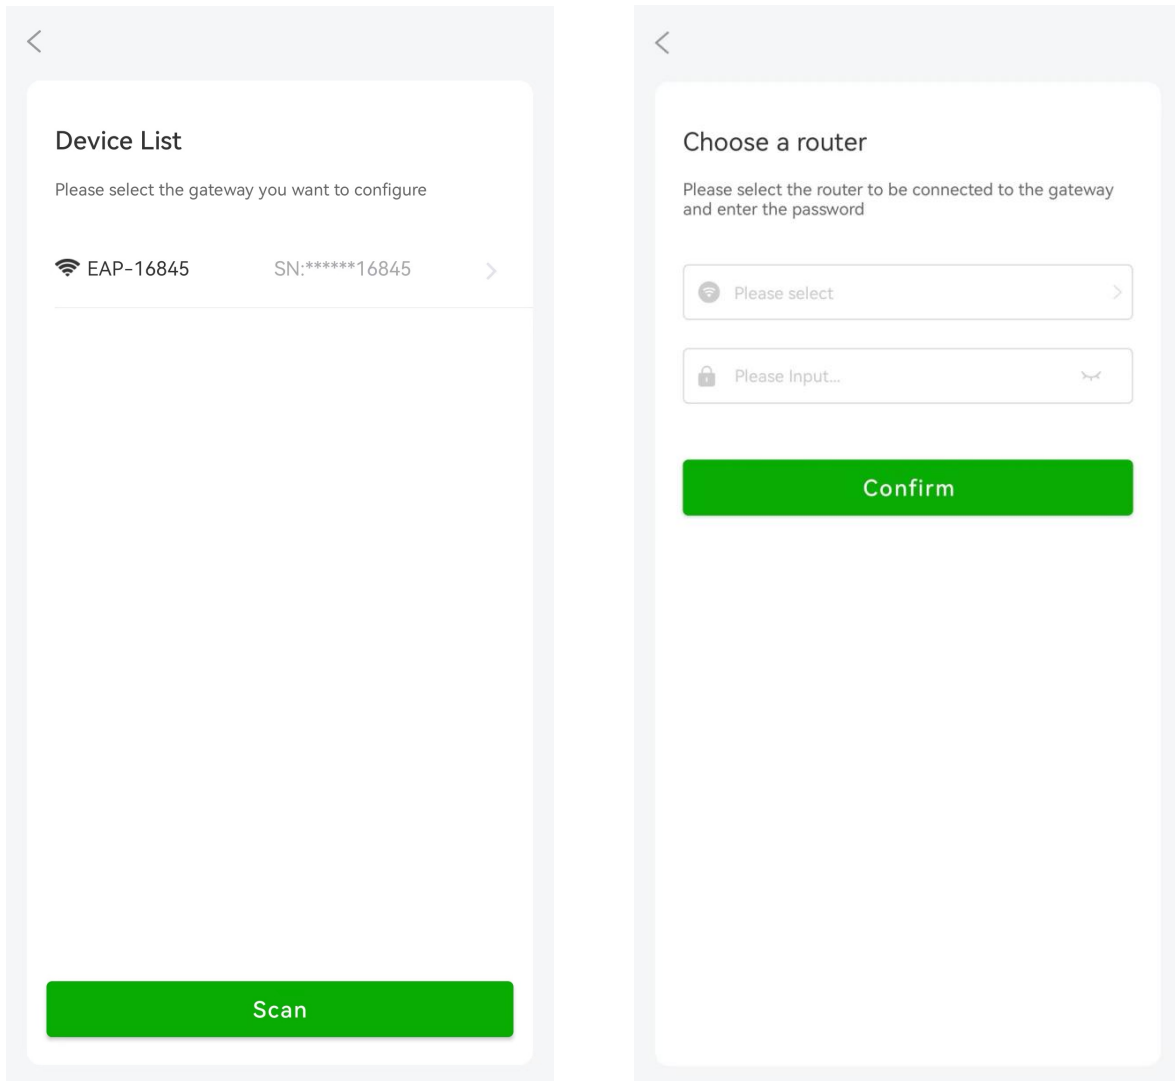

Figure 5-3 Connected devices
2. Select a network starting with "EAP-\*\*\*\*\*" with "\*" as the last 5 digits of the device serial number. The APP switches to the "Choose a router" interface and choose the router to be connected to the gateway. as shown in Figure 5-3.
3. Enter the router password, as shown in Figure 5-3.
4. Click "Confirm" button (Figure 5-3) to jump to the successful interface of APP.